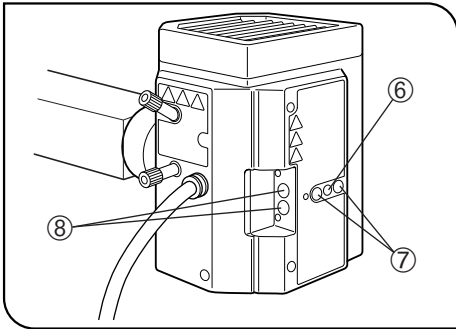

Fig. 4
8. Ring the arc image on the center of the left (or right) half of the field by turning the burner centering knobs ⑤. (B)
9. Focus on the mirror arc image by adjusting the mirror focus screw ⑥ (Fig 4) on the rear of the lamp housing using the Allen screwdriver. (C)
10. Overlay the arc image with the mirror arc image by turning the burner centering knobs ⑤. (D)